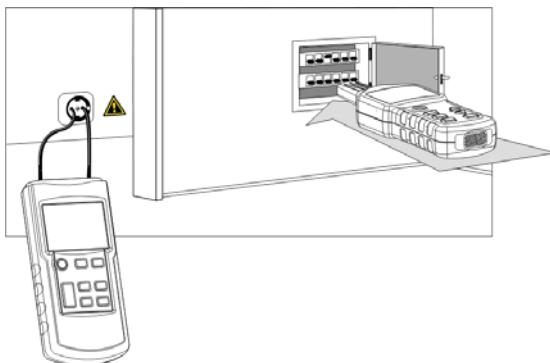

Fig. 19
- Connect the transmitter as shown in figure 19.